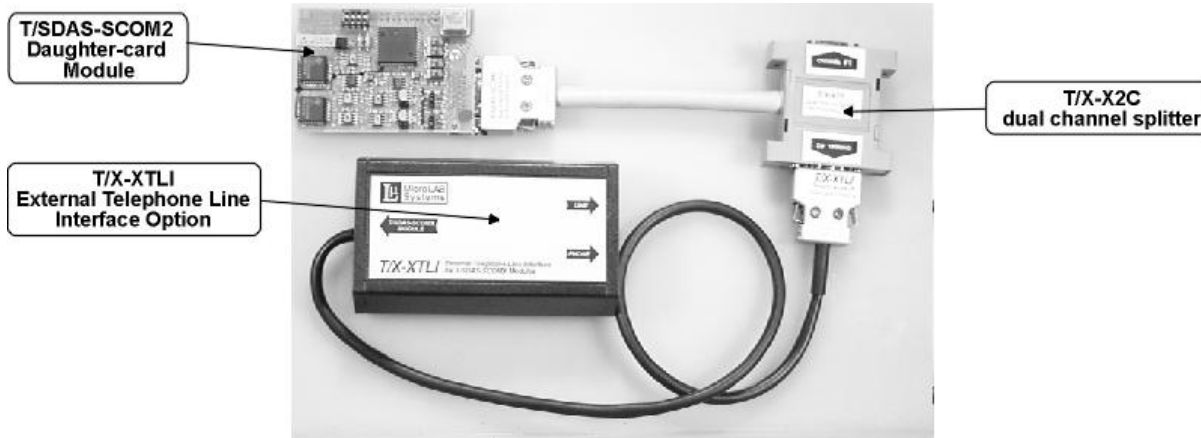

Fig. 1-7. T/SDAS-SCOM2 daughter-card module with external dual-channel splitter (T/X-X2C) and one external T/X-XTL external telephone line interface option.
- up to two *T/X-XTLI* external telephone line interface options, which connect to *T/X-X2C* dual-channel splitter (see subsection below and fig.1-7), and allow direct connection to PSTN (public switch telephone network) subscriber lines
*T/X-XTLI* external telephone line interface option (fig.1-7) (also known as DAA (digital access arrangement) based passive telephone line interface) is designed as the end-user PSTN (public switched telephone network) equipment and offers direct access to available PSTN subscriber lines. In case appropriate DSP software is supplied, this converts *TORNADO* DSP system or controller with installed *T/SDAS-SCOM2* module and external *T/X-XTLI* telephone line interface into automatic answering machine, fax machine or modem with data transmission over PSTN telephone lines.